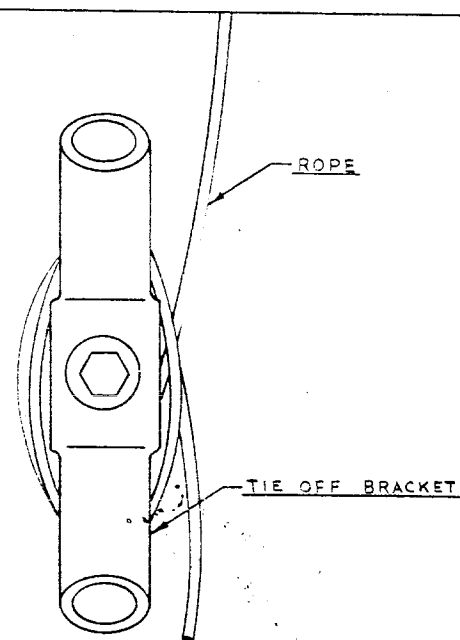

FIGURE 4
8. Rope tie off bracket is to be centered with lid hoist. It is to bolt to the horizontal bolting between the second and third ring of the bin. Secure rope to tie off by wrapping it around the bracket. (See Figure 4).